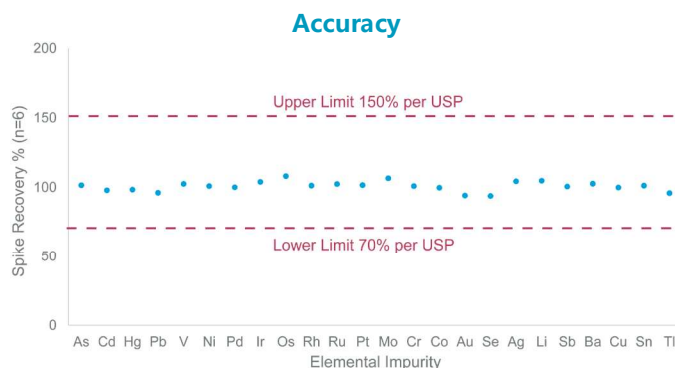

Figure 7. Accuracy determined on six 1J spiked samples.
- 1J加标的样品加标回收率在70%-150%之间 (Figure 7).